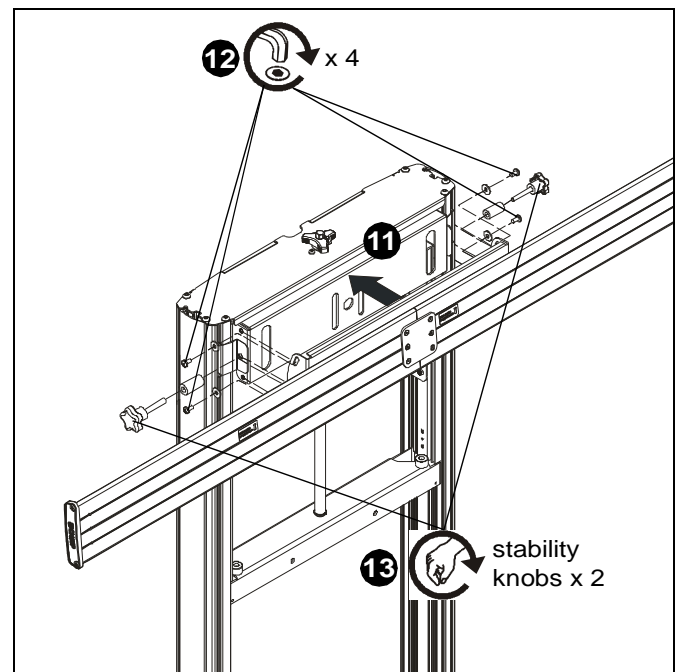

Figure 6
11. Place new head assembly onto column assembly. (See Figure 6)
12. Use four screws and washers removed in Step 2 to reattach tilt plate to column assembly. (See Figure 6)
13. Reinstall two stability knobs and spacers through stability plates and into head assembly. (See Figure 6)